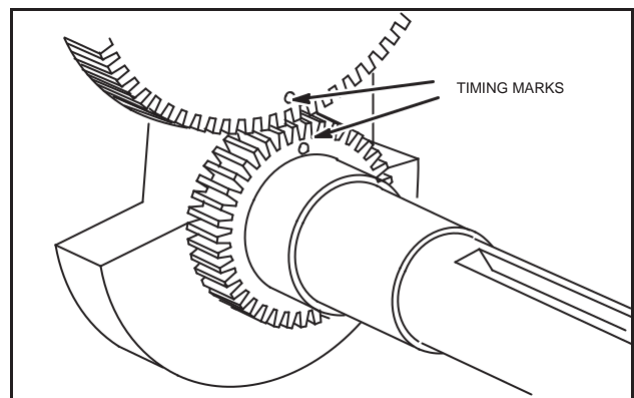

Fig. 4 – Align Timing Marks
4. Rotate crankshaft and camshaft until timing marks align and remove camshaft, Fig. 4.